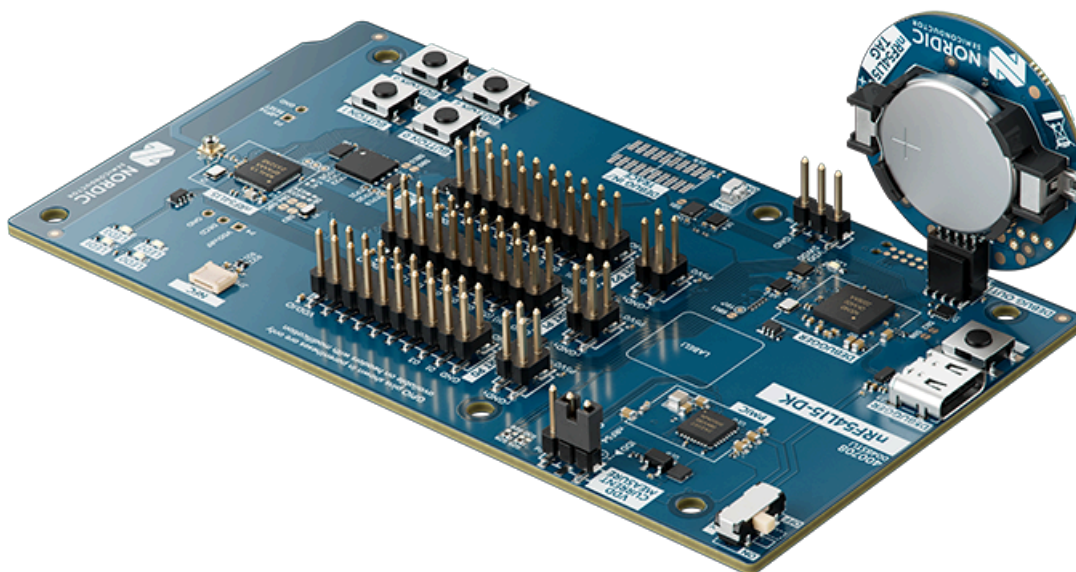

Figure 13: Option 1: Connect nRF54L15 Tag to an nRF54L Series DK and power with battery
- Insert the coin cell battery (CR2032) into the battery holder. See Figure 13: Option 1: Connect nRF54L15 Tag to an nRF54L Series DK and power with battery on page 18.